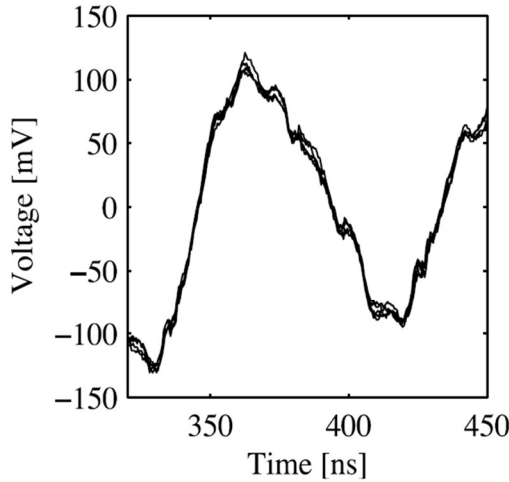

Figure 4.1. Power traces look very similar if the same data is processed.
- 2) (25 pts.) Consider Figures 4.1 and 4.2 from Chapter 4 of *Power Analysis Attacks: Revealing the Secrets of Smart Cards* by Mangard et al. The point of this question is qualitative, not quantitative.
- a. (5 pts.) Explain in your own words what the five power traces shown in Figure 4.1 indicate.
The five power traces in Fig. 4.1 indicate that the energy consumption or power trace for the same instructions with the